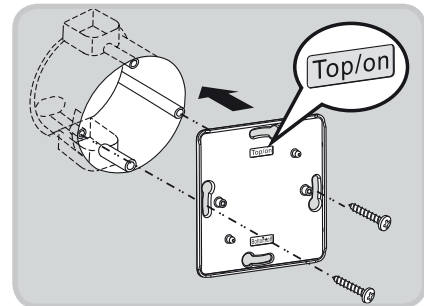

Fig. 7
- NB! The forcing switch has two positions, only the on position generating a signal (see Fig. 7). The off position terminates the function.
- on a wallbox (see Fig. 7 and point 2.2.3)